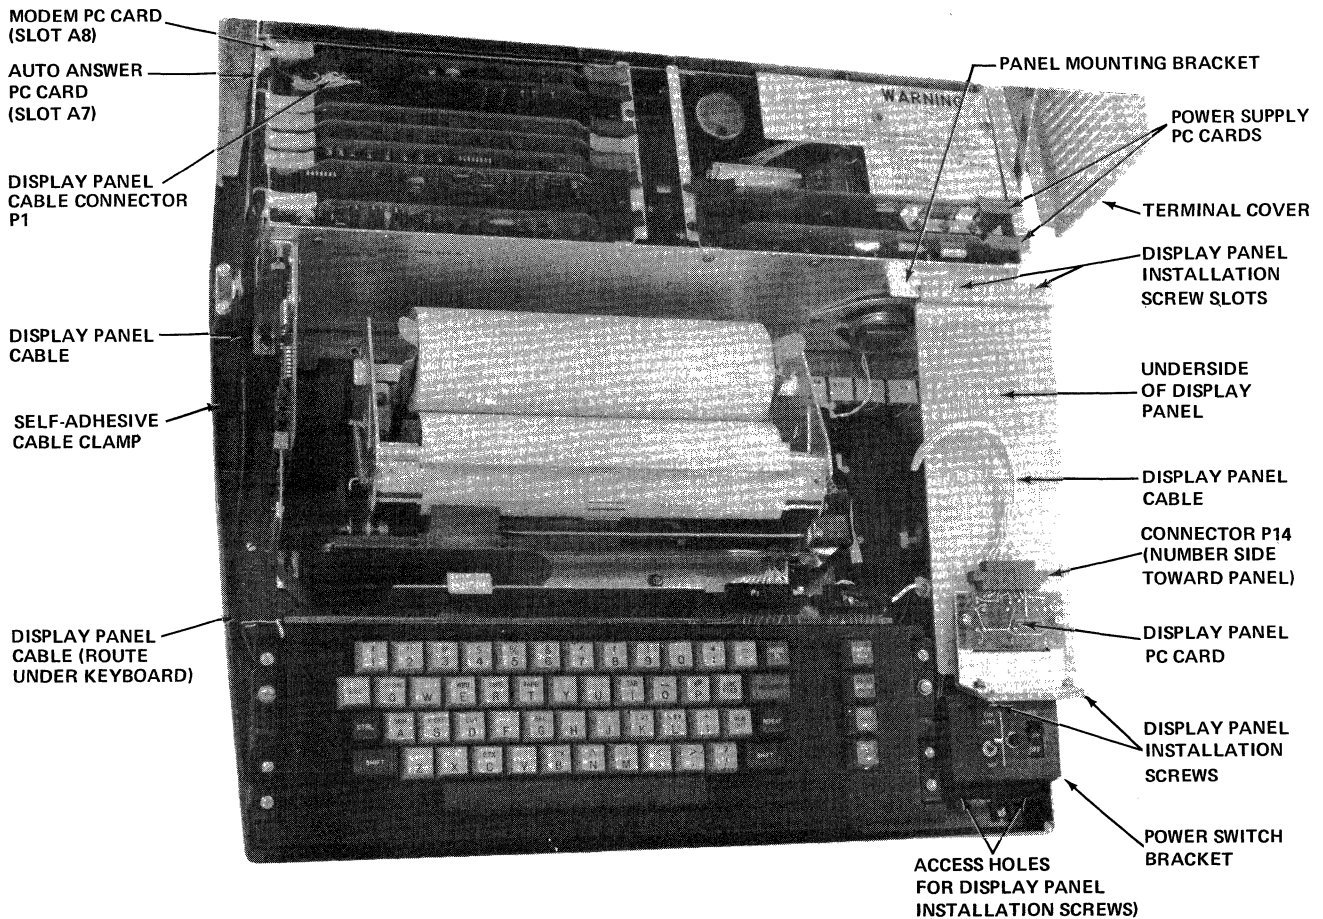
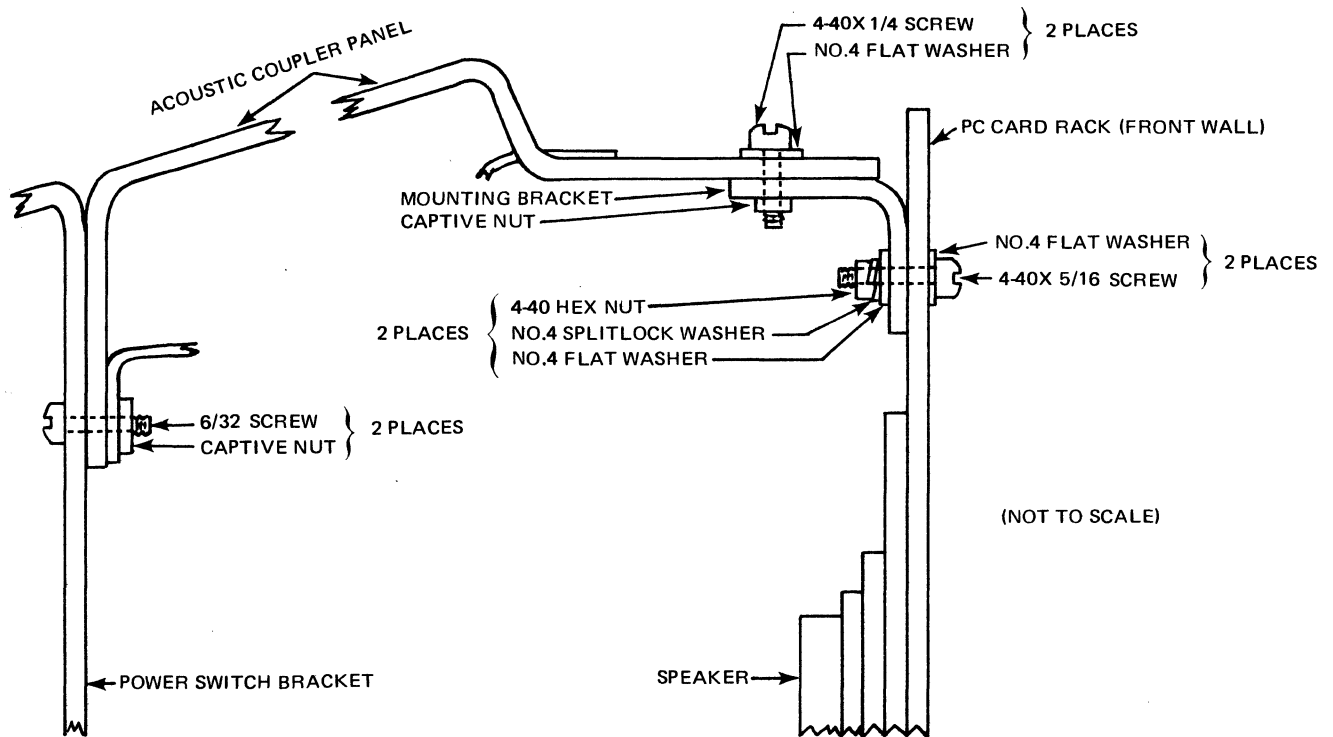

FIGURE 2-7.4. AUTO ANSWER CONTROL OPTION INSTALLATION COMPONENTS
FIGURE 2-7.5. ACOUSTIC COUPLER PANEL INSTALLATION DETAILS
- d. Install the display panel as follows. Refer to Figure 2-7.4 for location of components.
- (1) Remove the two Power Supply PC cards from PC card slots A9 and A10 (brown and red ejectors).
- (2) On the underside of the terminal cover, use diagonal cutters to cut the four pins which hold the blank option panel in place. Cut close to the metal push-on fasteners and pry off the fasteners with a screwdriver. Then cut the four plastic pins again, as short as possible to prevent interference with the new panel.
- (3) Attach the panel mounting bracket to the PC card rack front wall, using two 4-40 x 3/16 screws, two No. 4 splitlock washers, and two 4-40 hex nuts. Insert the screws from inside the PC card rack. See Figure 2-7.5 for installation details.
- (4) Attach the display panel cable (971556) connector P14 to the PC card on the underside of the panel as shown in Figure 2-7.4. The connector number should face the underside of the panel.
- (5) Loosely insert two 6-32 x 5/16 screws into the front lower part of the display panel. Place a drop of Loctite on the threads.
- (6) Locate the display panel so that the two 6-32 screw heads insert into the keyhole slots in the back of the POWER switch box. Press down on the panel to seat the screws into the narrow part of the keyholes.
- (7) Insert a screwdriver through the holes in the front of the POWER switch box and tighten both 6-32 screws.
- (8) Insert and tighten two 4-40 x 1/4 screws and two No. 4 flat washers through the slots at the rear of the display panel and into the panel bracket as shown in Figure 2-7.5.
- (9) Replace the two Power Supply PC cards removed in step (1) above. Be sure the colored PC card ejectors match the color dots on the PC card rack.
- (10) Route the display panel cable (971556) behind and below the keyboard and along the left bottom of the data terminal base as shown in Figure 2-7.4. Secure the self-adhesive clamps to the bottom of the data terminal case.
- (11) Plug connector P1 onto the top of the Auto Answer PC card (card slot A7, purple ejector) installed in step b. above.
- (1) Place thumbs under the PC card ejectors and lift upward to dislodge the PC card.
- (2) Lift the PC cards up and out of their PC card rack slots.
- e. Attach the panel mounting bracket to the PC card rack front wall, using the hardware shown in Figure 2-7.5.
g. Add a drop of Loctite to the two 6-32 x 5/16 screws and start them into the captive nuts on the front part of the Acoustic Coupler panel as shown in Figure 2-7.5. Position the panel so that the loose 6-32 screws insert into the two keyhole slots at the rear of the POWER switch box.
- (1) Press down on the front of the Acoustic Coupler panel so the two loose 6-32 screws seat in the narrow part of the keyhole slots in the POWER switch box.
- (2) Insert two 4-40 x 5/16 screws and two No. 4 flat washers through the two slots in the upper part of the Acoustic Coupler panel and into the mounting bracket captive nut as shown in Figure 2-7.5. Tighten the screws.